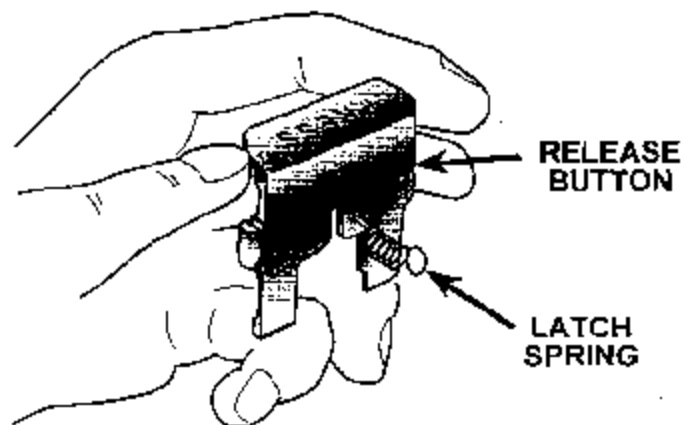

FIGURE 7
13. Make sure that the latch spring is attached to the provided release button. Rotate the latch spring away from the button to ease button installation (Figure 7).